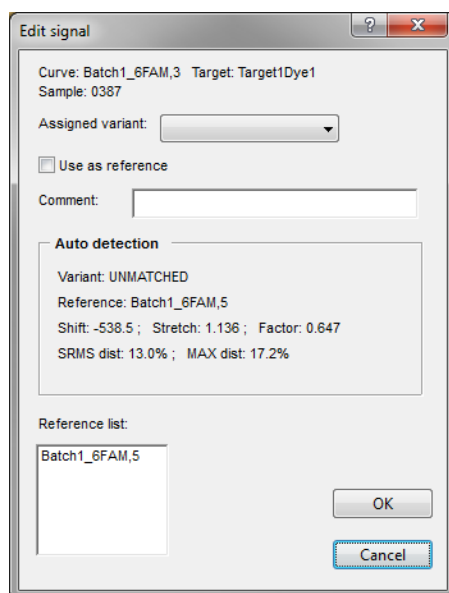

Figure 3.26: The *Edit signal box* after automatic matching.
- 11.2 Press the **Enter**-key to open the *Edit signal box*. The box now looks as in Figure 3.26.